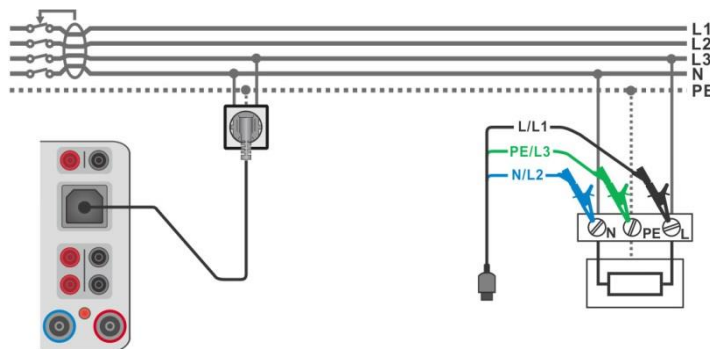

Figure 6.84: Z auto measurement connection
- › Connect 3-wire test lead or Plug test cable to the object under test, see **Figure 6.84**.